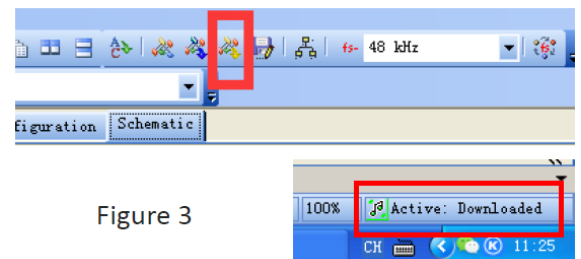

Figure 3
- Then click the “Link Compile Download” (see figure 3) and you will find “Active: Compiled” in the lower right corner of your computer.